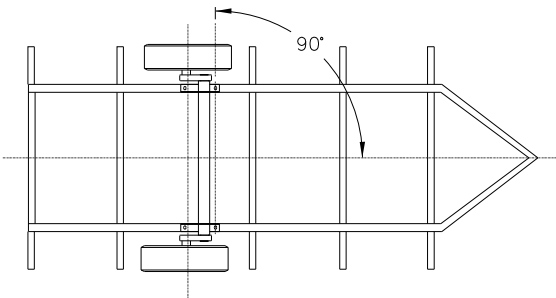

Figure 3
**Step 3:** Once the method of attachment is decided, the axle(s) must be carefully aligned on the trailer frame. The axle(s) centerline must be perpendicular to the longitudinal centerline of the trailer. See figure 3.